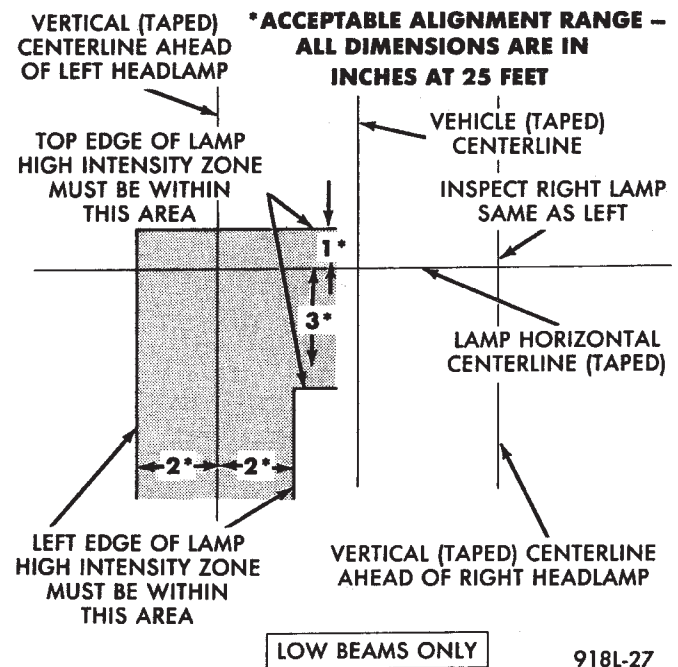

Fig. 6 Headlamp Beam Pattern—Typical
- (1) Remove screws and both headlamp bezels.
- (2) Clean front of the headlamps.
- (3) Place headlamps on LOW beam.
- (4) Cover front of the headlamp that is not being adjusted.
- (5) Turn vertical adjustment screw until the headlamp beam pattern on screen/wall is similar to the pattern depicted in Figure 6.
(6) Rotate the horizontal adjustment screw until the headlamp beam pattern on the aiming screen/wall similar to the pattern in Figure 6.
(7) Cover front of the headlamp that has been adjusted and adjust the other headlamp beam as instructed above.
(8) Install headlamp bezels. Tighten the screws securely.